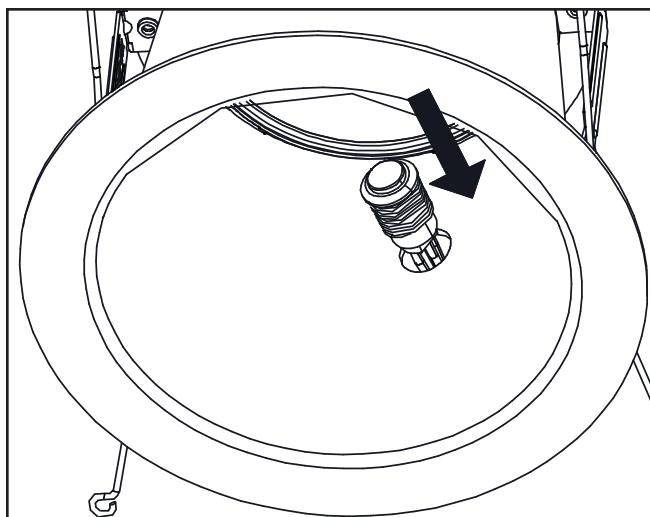

Figure 3.
2. Remove hex nut from test switch and install test switch to the trim (Figure 3 & 4)